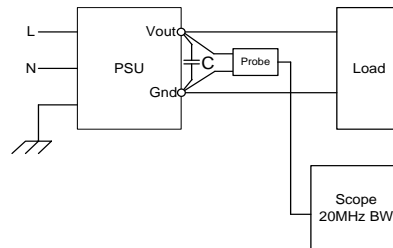

Figure 19. Output Ripple Test Setup
- Outputs bypassed at the point of measurement with a parallel combination of 10 $\mu$ F tantalum capacitor in parallel with 0.1 $\mu$ F ceramic capacitors, referring the setup in Figure 19.